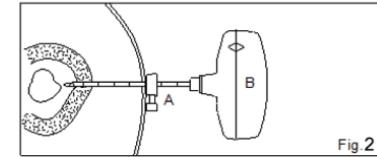

Fig. 2
- FIG. 2** Move the depth gauge forward until in contact with the skin, then withdraw it by the desired depth, using the centimeter markings on the Cutting Cannula (A) to provide a visual guide.